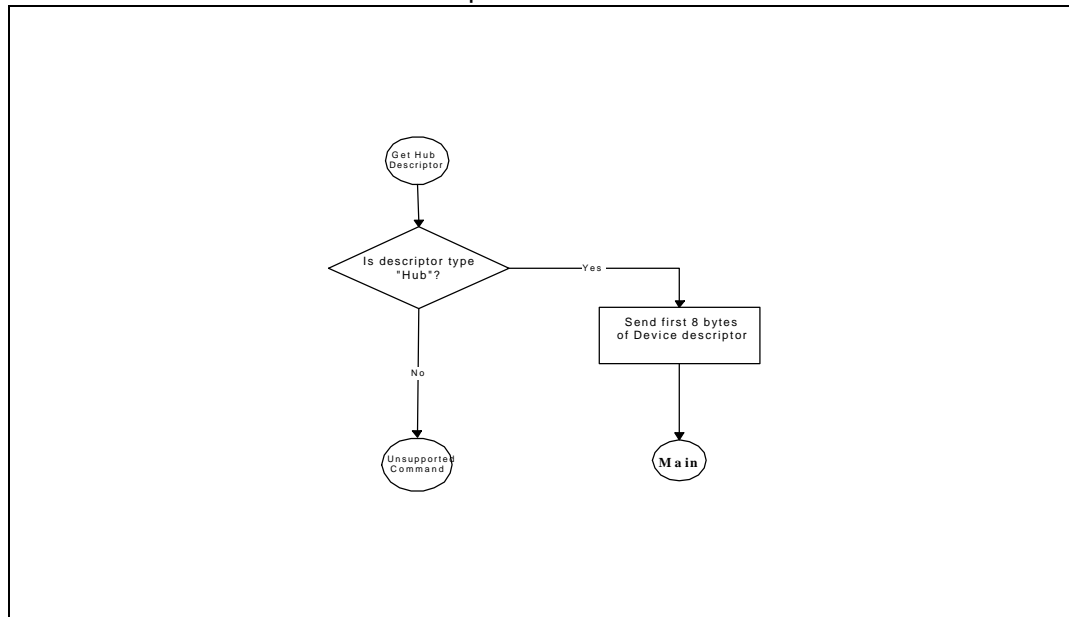

Figure 20: Get Hub Descriptor Command
- Get Hub Descriptor (Figure 20)